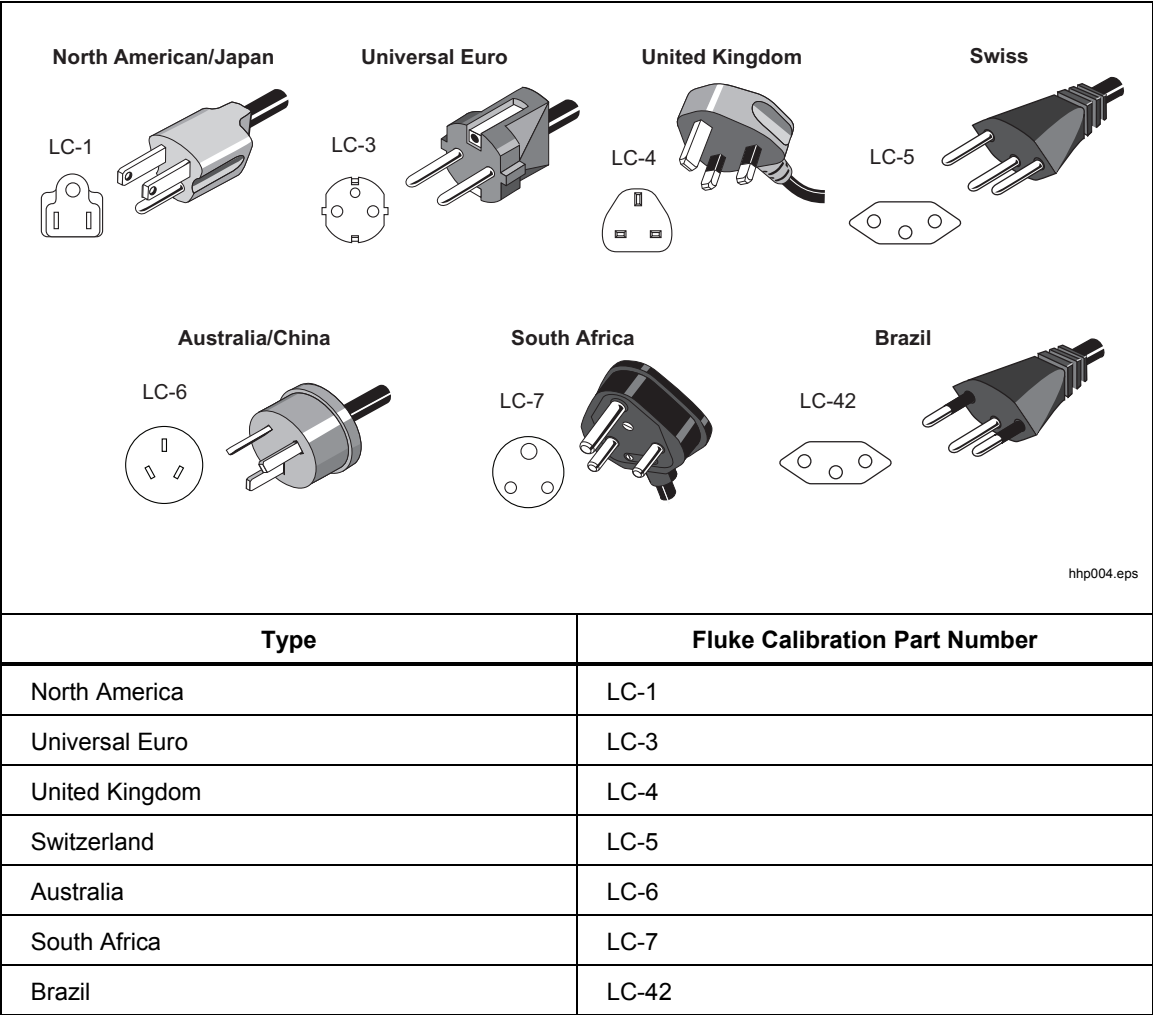

Figure 6. Available Mains Power Cord Types
- Mains power cord (see Figure 6)
The Product comes with the appropriate line power plug for the country of purchase. If a different type is necessary, refer to Figure 6 for the correct mains line power plug types available from Fluke Calibration.